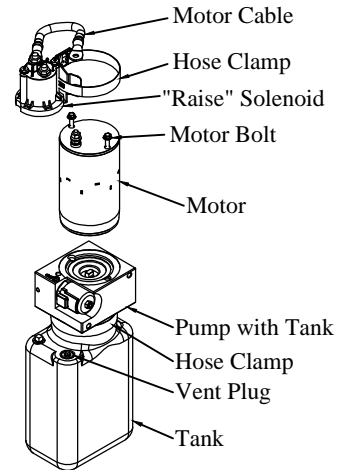

Figure 6: Power unit parts separated.
1. **Disconnect** the 4GA motor cable from the motor (Figure 6).
3. **Remove** the two (2) motor bolts (Figure 6).
4. Carefully **Pull** the motor free from the pump (Figure 6). Make sure the motor case and shaft stay together while separating the motor from the pump.
1. **Remove** the vent plug (Figure 6).
3. **Loosen** the hose clamp holding the tank on the pump (Figure 6).